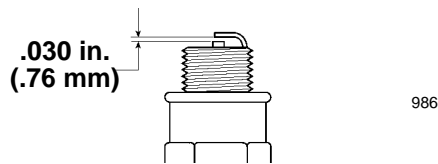

Figure 18
- Set the gap on the new plug to 0.030" (0.76 mm) (Fig. 18).